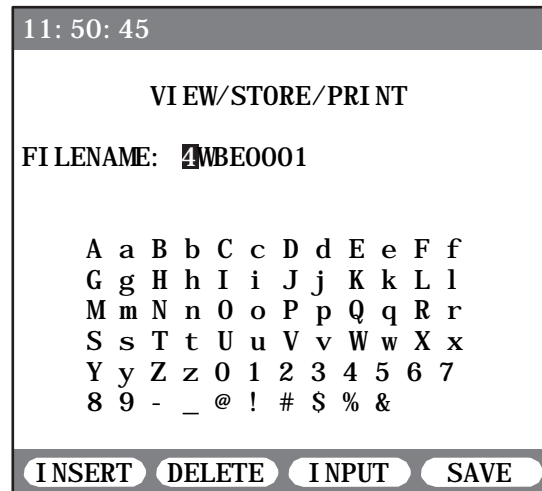

Figure 42 Filename Character Screen
3. Press RENAME (F1) and a character entry screen like the one shown in Figure 42 is displayed.